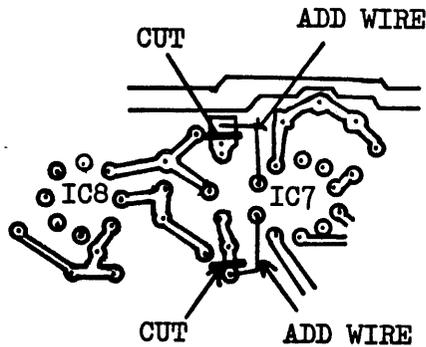

FIGURE 1.
2. Cut two tracks and add two wires as shown in Figure 1.